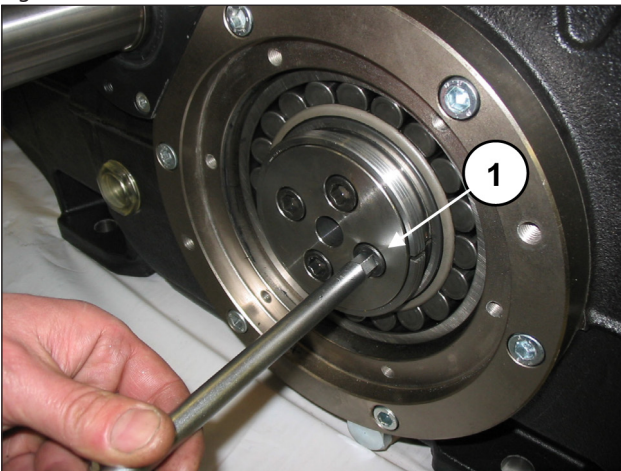
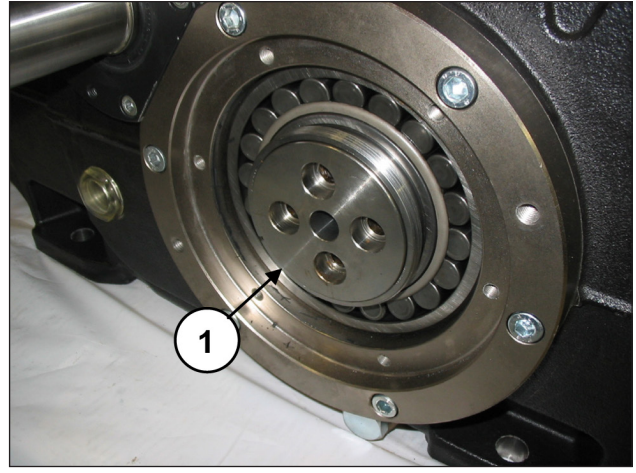

Fig. 13
Fig. 14
Unscrew and take out the bush locking flange attachment screws, from both sides (pos. ①, Fig. 13). The bush locking flanges must be left in position (pos. ①, Fig. 14).